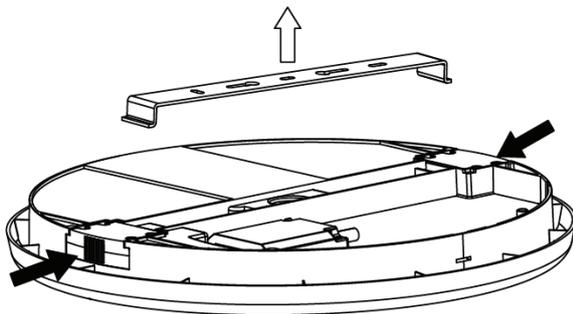

Figure 1
3. Press the two side knobs to release the metal bracket (see Figure 1). Fix the metal bracket to the ceiling using the supplied expansion screws (see Figure 2). Then press the lamp back onto the metal bracket until it is securely fixed.